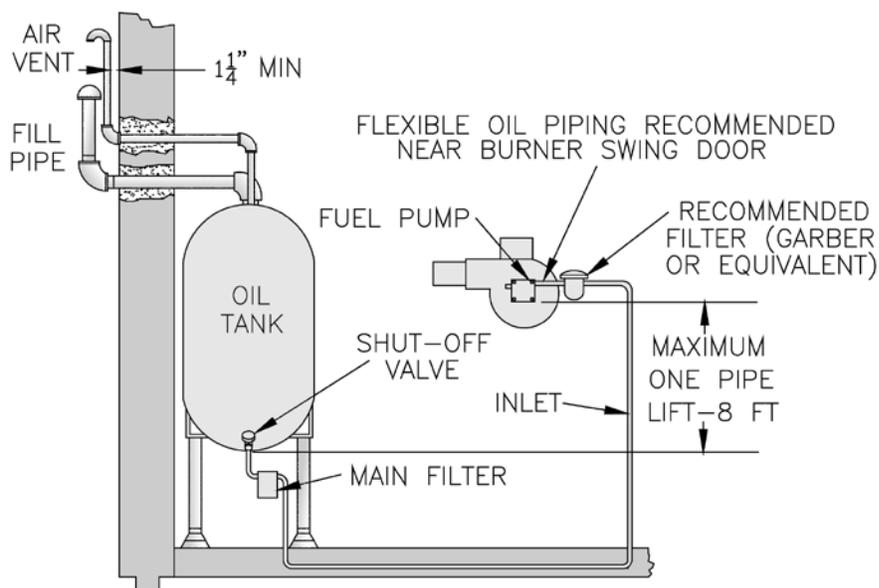
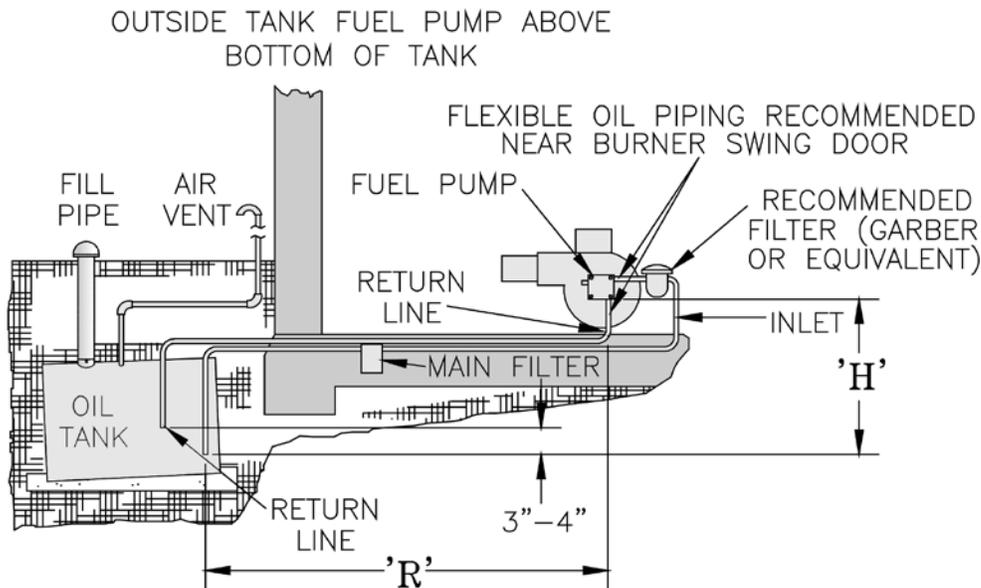

Figure 21: Single Pipe Oil Line
Figure 22: Two Pipe Oil Lines
2. The single-stage fuel unit may be installed single-pipe with gravity feed or lift. Maximum allowable lift is 8 feet. See Figure 21.
1. For two piped systems, where more lift is required, the two-stage fuel unit is recommended. Table 5 (two-stage) and Table 6 (single-stage) show allowable lift and lengths of 3/8 inch and 1/2 inch OD tubing for both suction and return lines. Refer to Figure 22.
Lift "H" (See Fig. 22)	Maximum Length of Tubing "H" + "R" (See Figure 22)
Lift "H" (See Fig. 21)	Maximum Length of Tubing "H" + "R" (See Figure 22)